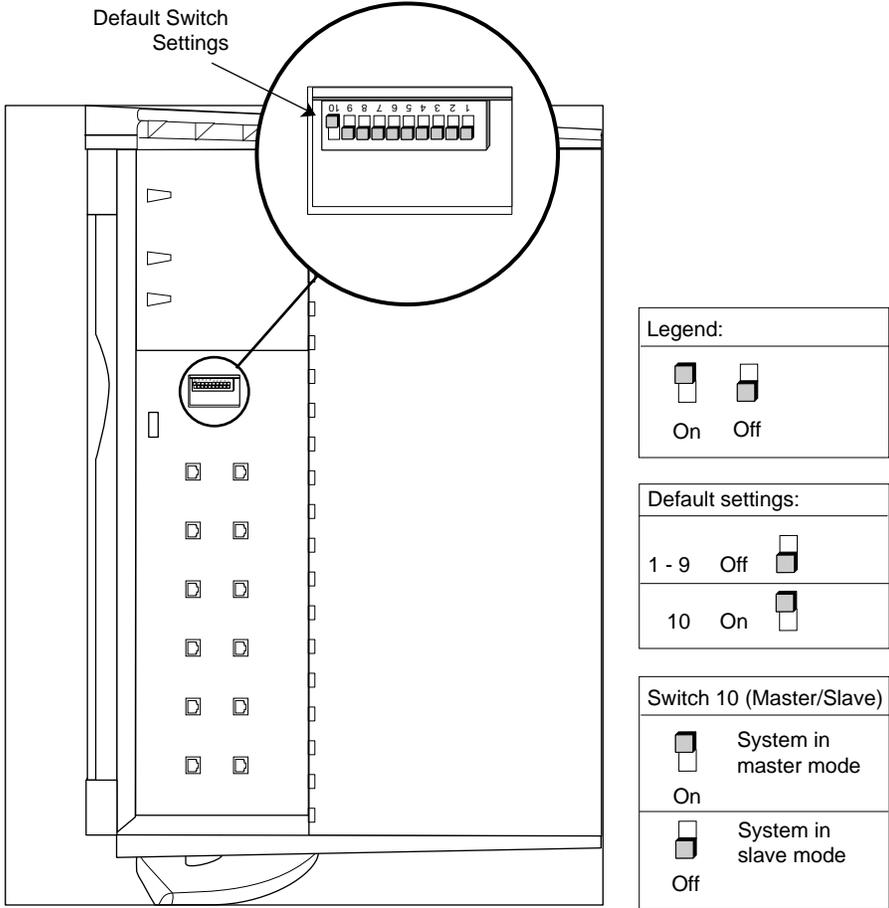

Figure 2-18 MSC DIP Switch Location and Settings
3. Locate the MSC DIP switch, as shown in Figure 2-18.
- 4. Using a ballpoint pen or similar, change switch 10 to “off” to place this module in slave mode. See Figure 2-18.